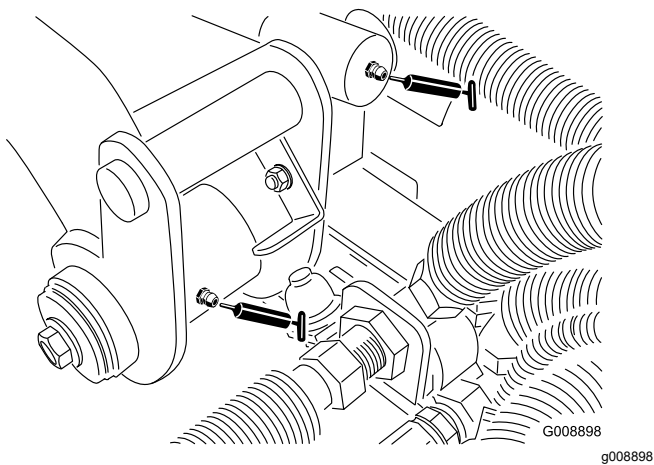

Figure 36
- 2 rear lift-arm pivots and lift cylinder (Figure 36)